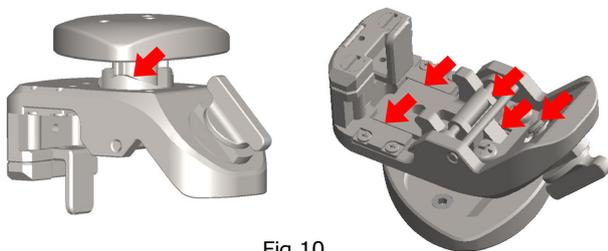

Fig.10
(4)-2 For the Retractor Slide Adjustor II, soak it in water-based lubricant and rust-preventive maintenance agent, or apply the lubricant to the arrowed part shown in Fig.10 before sterilizing the product [Insufficient lubrication may cause fixation failure.].